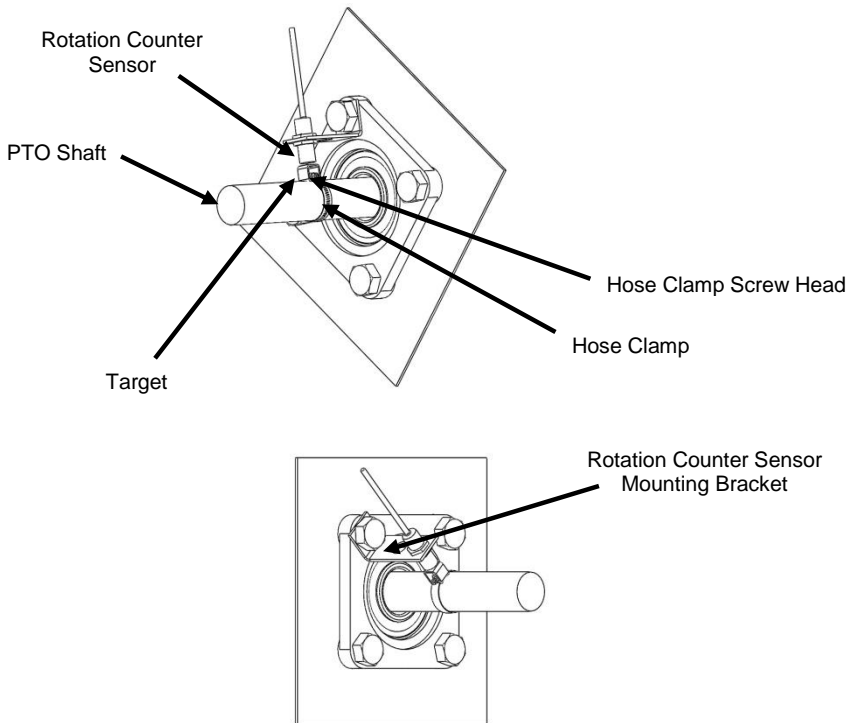

Figure 2: Target Installation
3. Attach target, adhesive side down, securely to PTO shaft with hose clamp as shown in Figure 2. Place hose clamp screw head inside target as shown in Figures 2 and 3.
4. Attach Rotation Counter Sensor Mounting Bracket to grain cart as shown in Figure 2.